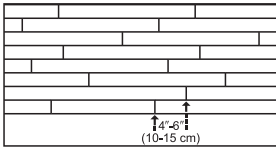

Figure 4 Preferred Alignment
- Be attentive to staggering the ends of boards at least 4"-6" (10-15 cm), when possible, in adjacent rows (Figure 4). This staggering pattern will help ensure a more favorable overall appearance of the floor.
- Check for a tight fit between all edges and ends of each plank. End-joints of adjacent rows should be staggered 4"–6" (10–15 cm) when possible, to ensure a more favorable overall appearance (Figure 4).